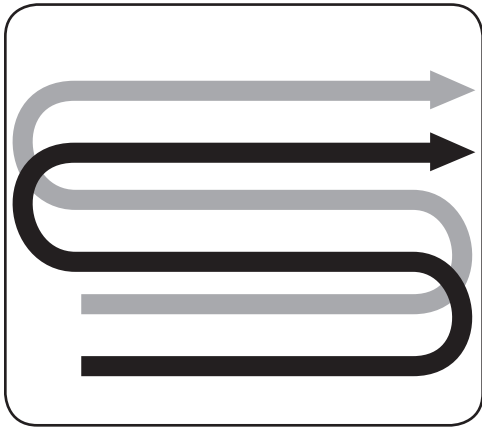

Figure 4-6
- When preparing a seedbed, go over the same path twice in the first row, then overlap one-half the tiller width on the rest of the passes. See Figure 4-6.